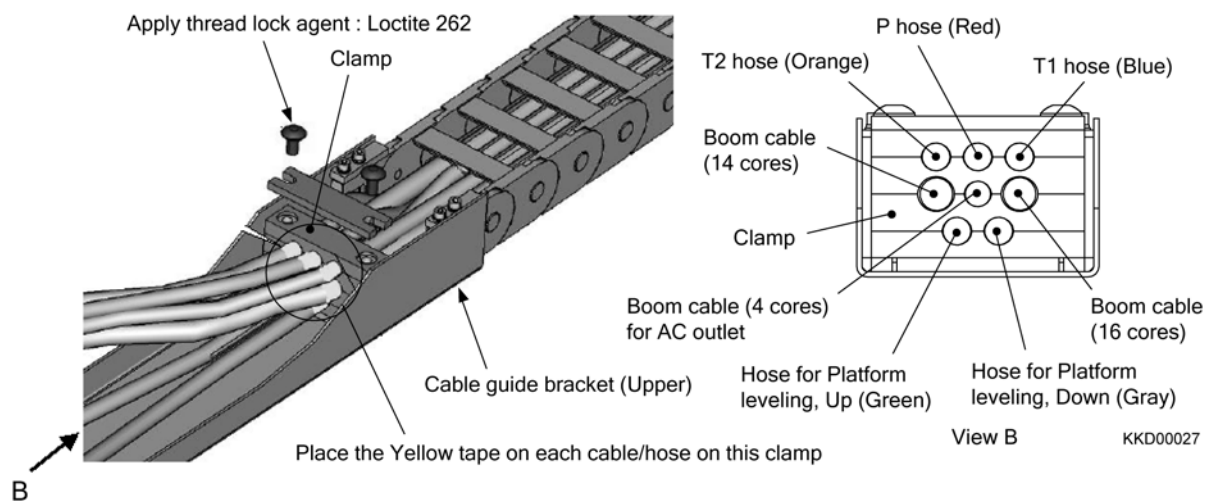

Fig. 2-58
3) Fix the boom cables and hoses to the cable guide bracket (Upper) by clamp. (Fig. 2-58)